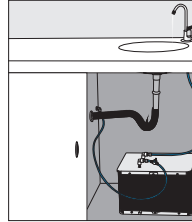

Figure 12
- 7.3 Release the pressure from the water system by opening the water faucet (Figure 12).